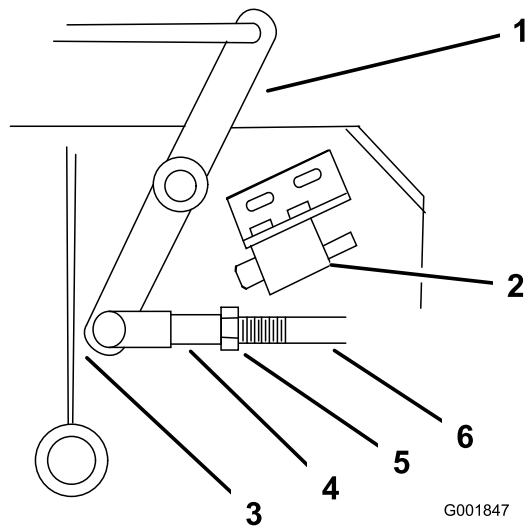

Figure 45
4. Adjust the linkage length to where the lower end of the bellcrank just clears the axle-support gusset (Figure 45).
9. Loosen the nut against the yoke (Figure 45).